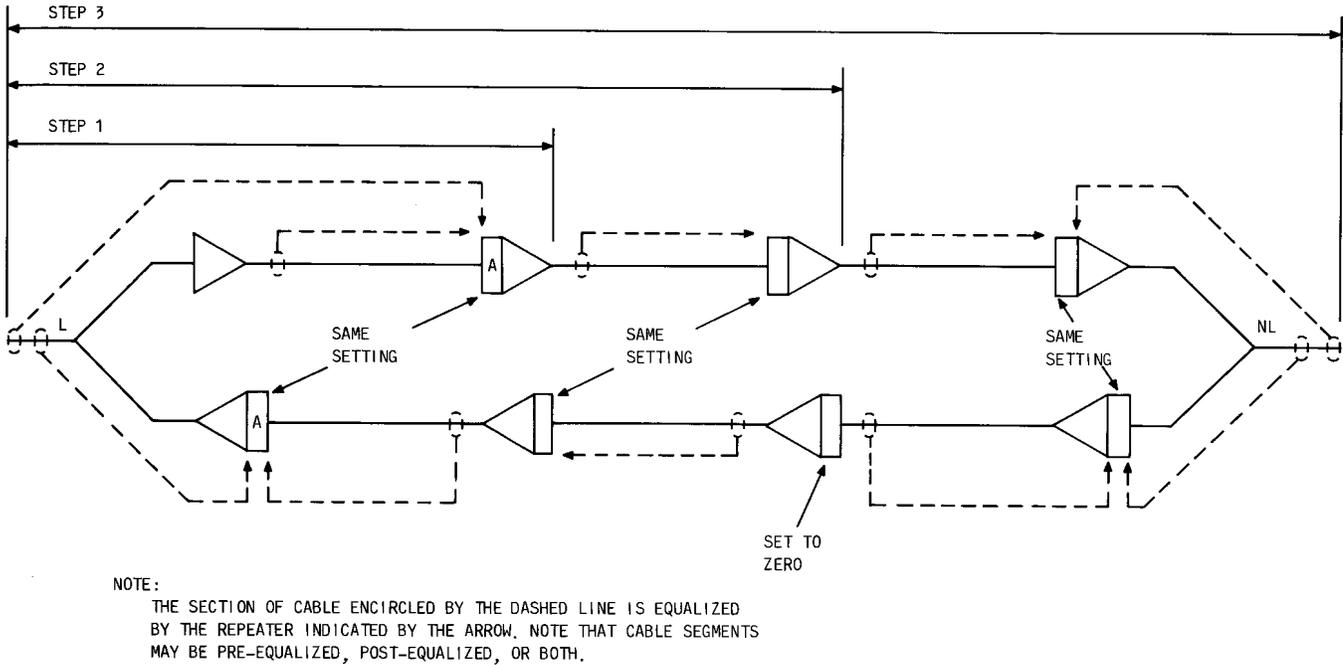

Fig. 24—Equalizer Touchup Procedure For a Complex Circuit
10.08 Circuits consisting of more than one equalized link should have the equalization for the overall circuit “touched up” as discussed below and as shown in Fig. 24. Equalization of the overall circuit on an end-to-end basis may be required to meet trunk objectives. Circuits consisting of one or two equalized links will normally meet trunk loss objectives with prescription settings (ie, no touchup adjustments should be required). When touchup is necessary for complex circuit configurations, this should be done in a sequence as indicated in Fig. 24. First, the touchup procedures are applied to a single equalized section as shown in Step 1. After adjusting the two equalizers designated “A”, touchup procedures are then applied to the next section (Step 2). The remaining sections of the circuit are touched up in a like manner without any further adjustment to the equalizers of the previously touched up section(s).